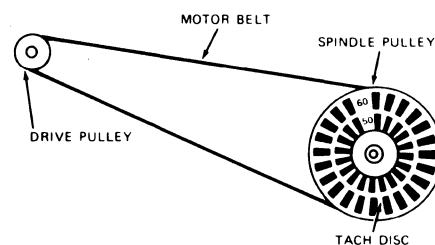

FIGURE 4. MOTOR SPEED ADJUSTMENT
- Turn the pot R-12 located on the motor control PCB until the dark lines on the spindle pulley appear motionless. For 60 HZ use the outside ring of lines for the 50 HZ observe the inside ring. Reference figure 4.